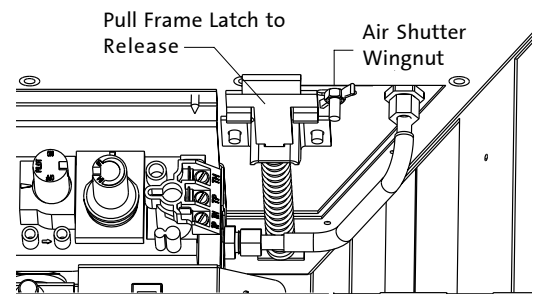

Figure 1. Frame latch and air shutter stem location.
2. **Remove the Glass Frame:** Release both glass frame latches and lift glass panel up to disengage it from the firebox. Fig.1.
4. **Loosen the Air Shutter** wingnut located within the control compartment. See Fig. 1. Slide the Air Shutter to the right, as far as it will go.